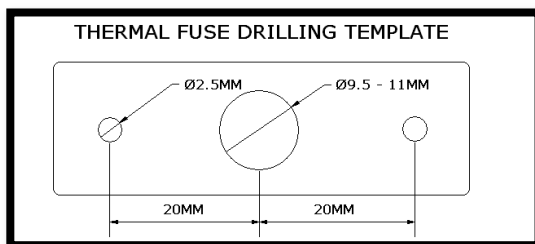

Fig 13
- 14.2 Drill holes in duct (sizes/positions are detailed on template label – see fig. 13). Remove burrs.